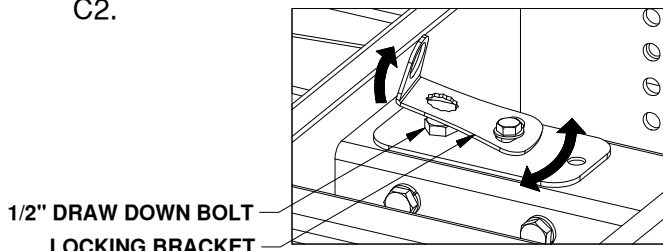

FIGURE C2: View of top of base.
6. Secure the base to the truck bed by **first** tightening the eight 1/2" cap screws attaching the socket post into the center of the base to 80 ft-lbs. **Second**, tighten the 1/2" x 3-1/2" draw-down bolt to 60 ft-lbs. Lock the draw down bolt in place by swiveling the locking bracket over the draw down bolt, see figure C2.